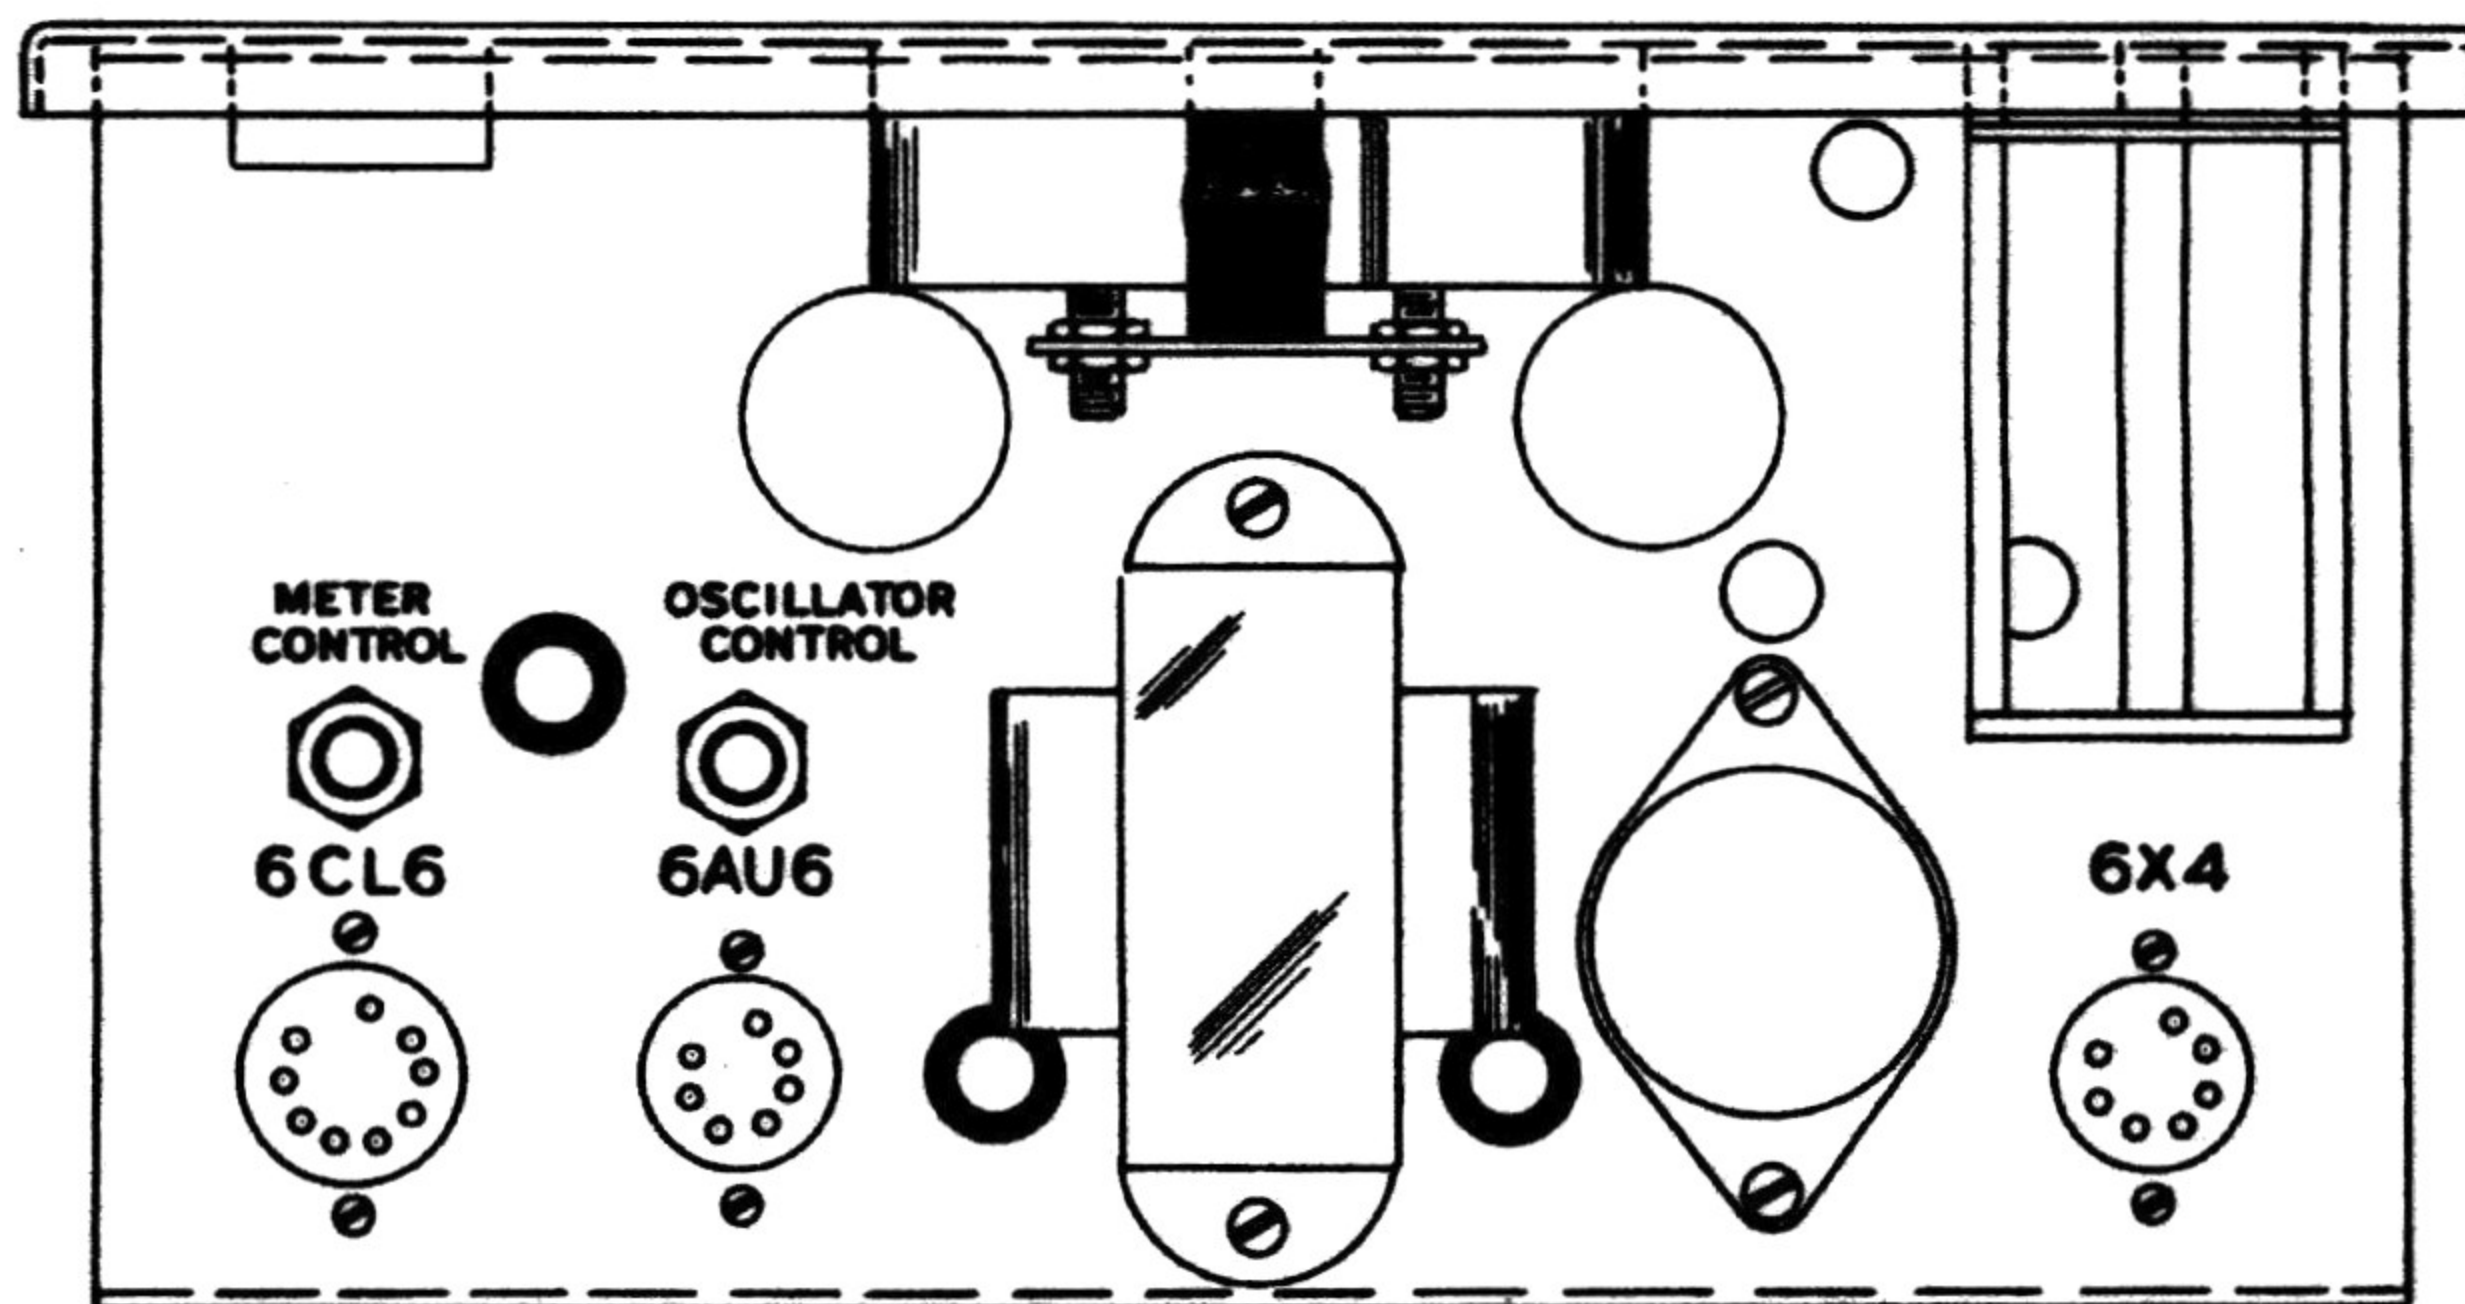

Figure 14
- ( ) Install the 3 watt 115 volt candelabra lamp and the 6X4, 6AU6 and 6CL6 tubes in their proper sockets. See Figure 14.